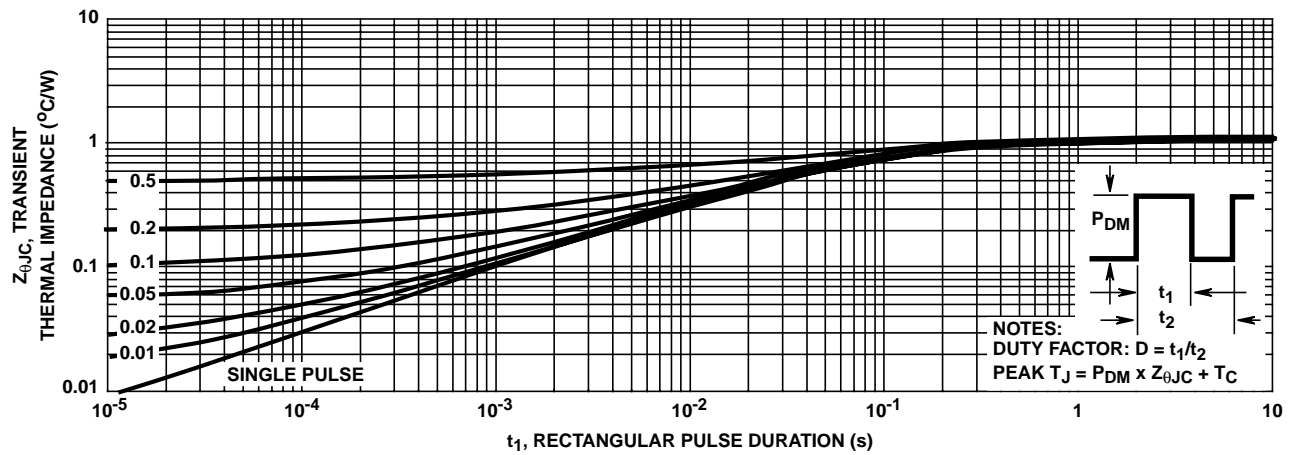

FIGURE 3. MAXIMUM TRANSIENT THERMAL IMPEDANCE
3. Repetitive rating: pulse width limited by maximum junction temperature. See Transient Thermal Impedance curve (Figure 3).